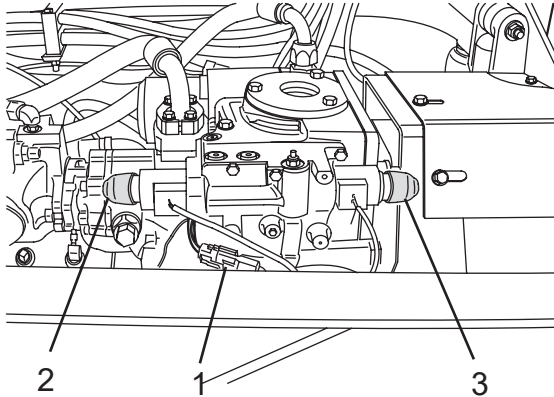

Figure 11
6. Connect the main electrical connector (Figure 11, Item 1) to the charge/discharge coils.
7. Install the charge/discharge manual override caps (Figure 11, Items 2 and 3).